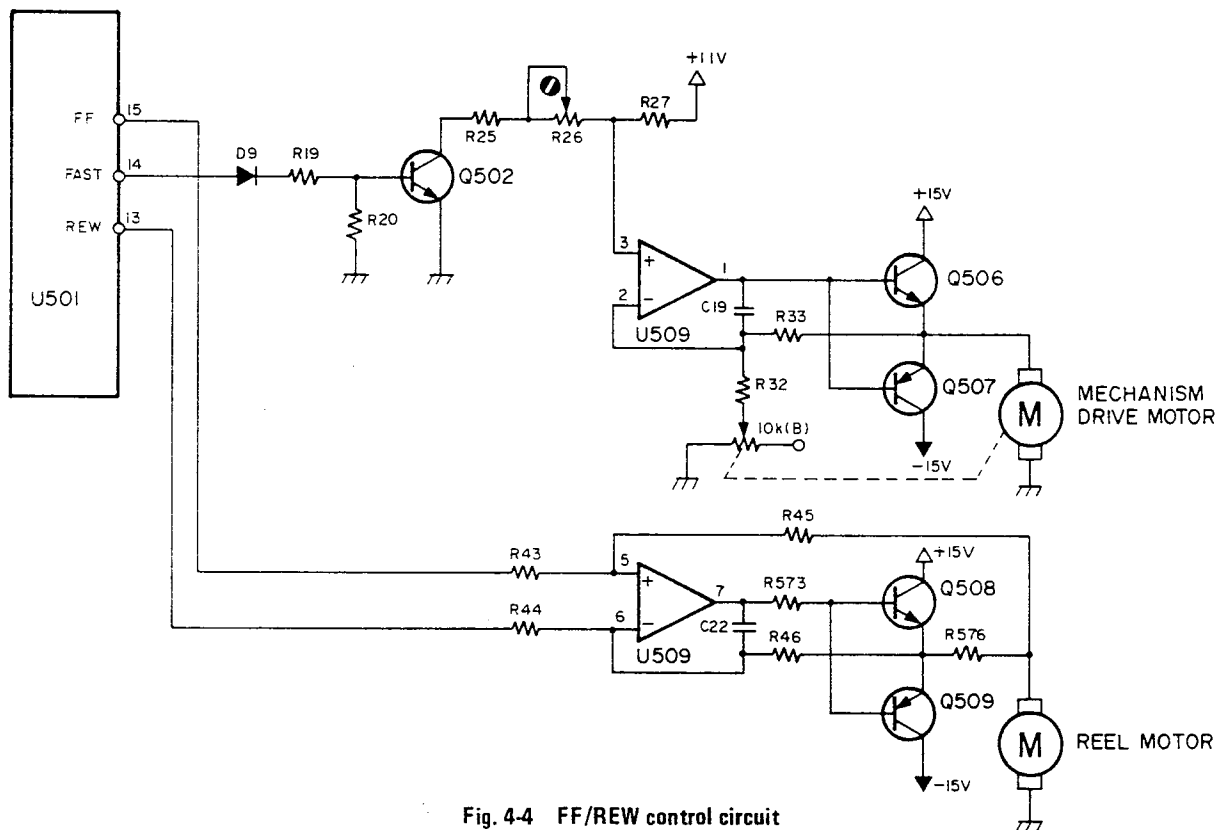

Fig. 4-4 FF/REW control circuit
- In the REW mode, the H level voltage from the pin 13 of U501 is applied to pin 6 of U509, and a negative high voltage is developed at pin 7 of U509. The negative voltage makes Q509 come on and drives the motor at high speed in the reverse direction. Refer to Fig. 4-4.